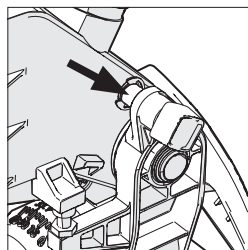

Fig. 16
- Ensure that the cutting head is in the locked down position with the latching pin fully engaged in its socket (**see Fig.16**).
- Ensure that the cutting head is in the locked down position with the latching pin fully engaged in its socket (**Fig. 16**).
- Pull out the head latching pin (**Fig. 16**) and allow the cutting head to rise to its upper position.